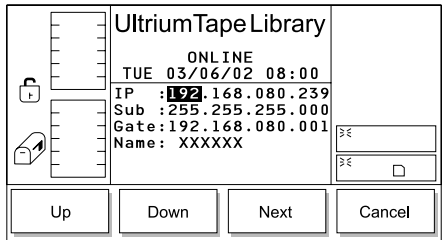

Figure 204. Confirm Changes Dialog
4. Press the button below the **RMU** softkey. The Confirm Changes Dialog displays (see Figure 204) with the following information: